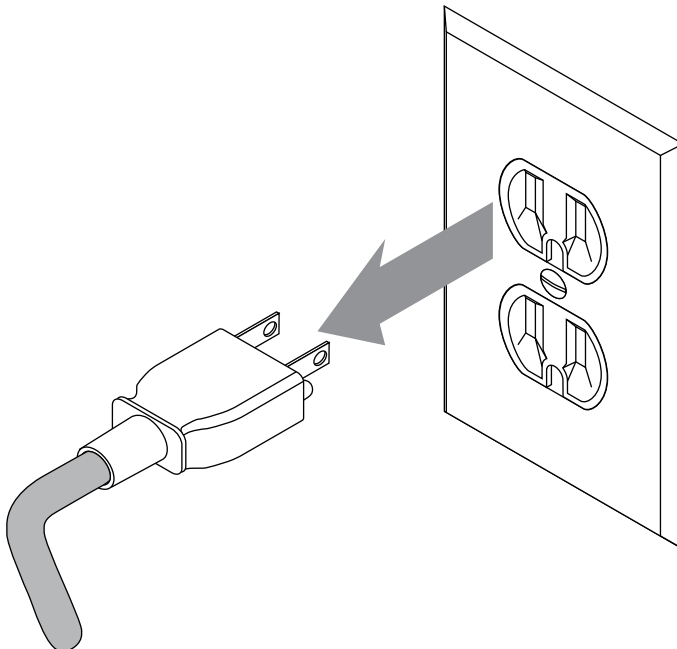

Figure 2-1. Unplugging the ac power cord from the receptacle
1. Switch off your personal computer (PC) and all peripheral devices, and unplug the power cord from the outlet (see figure 2-1).